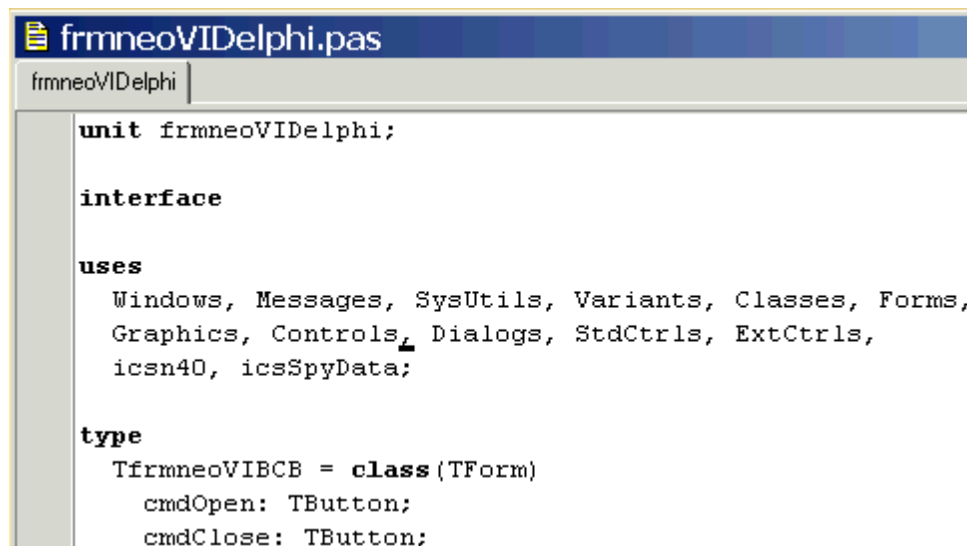

Figure 3 - Adding to Interface Uses
3) Include icsn40 and icsSpyData in your interface Uses (Figure 3).